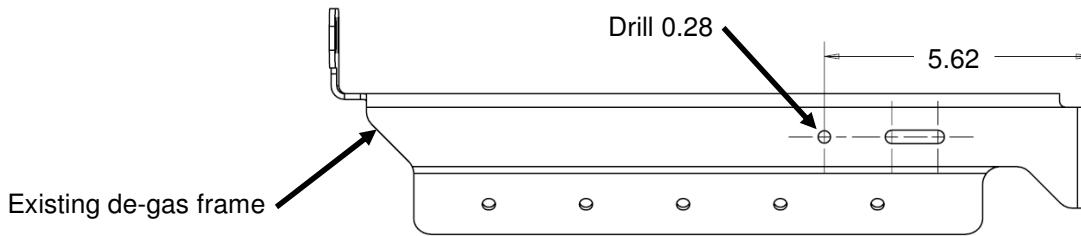

Figure 4: De-gas Frame Bracket Rework (as shown from the bottom)
13. Mark and drill a 0.28 Dia clearance hole through the existing de-gas frame as shown in Figure 4.